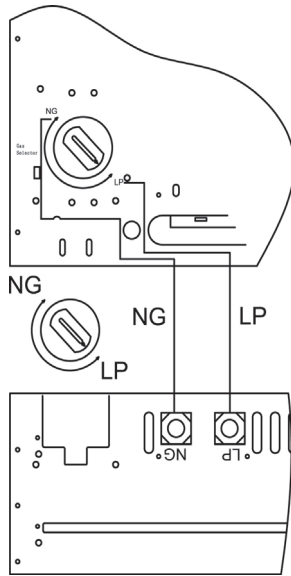

Figure 14
1. Remove top screw from cover plate, See Figure 14, and rotate to expose fuel selection device.